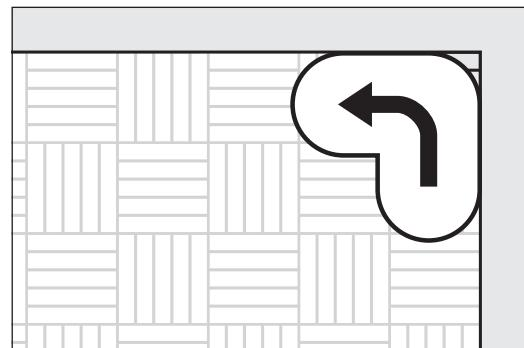

Fig. 13 FLIP® with **corner attachment**:
- The FLIP® with **corner attachment** is handled with **counterclockwise** movements (fig. 13) during the sanding process! Otherwise deep sanding marks might be generated which could be removed by a very time-consuming procedure afterwards only!